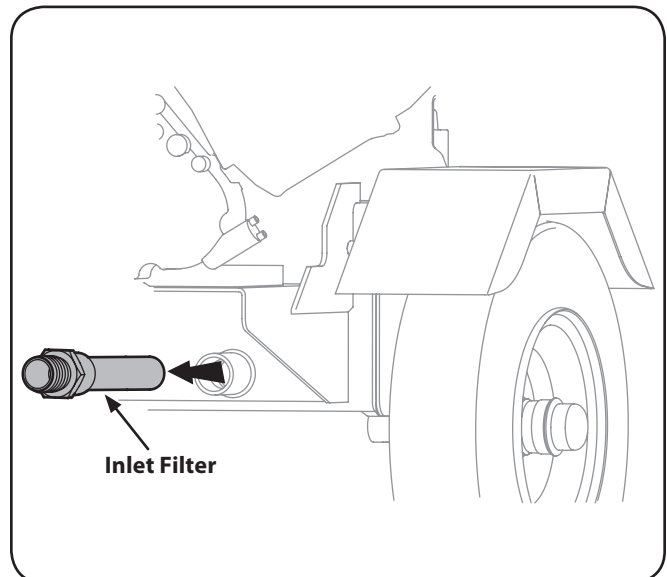

Figure 6-3
5. Carefully unthread the inlet filter and clean it with penetrating oil. See Figure 6-3.